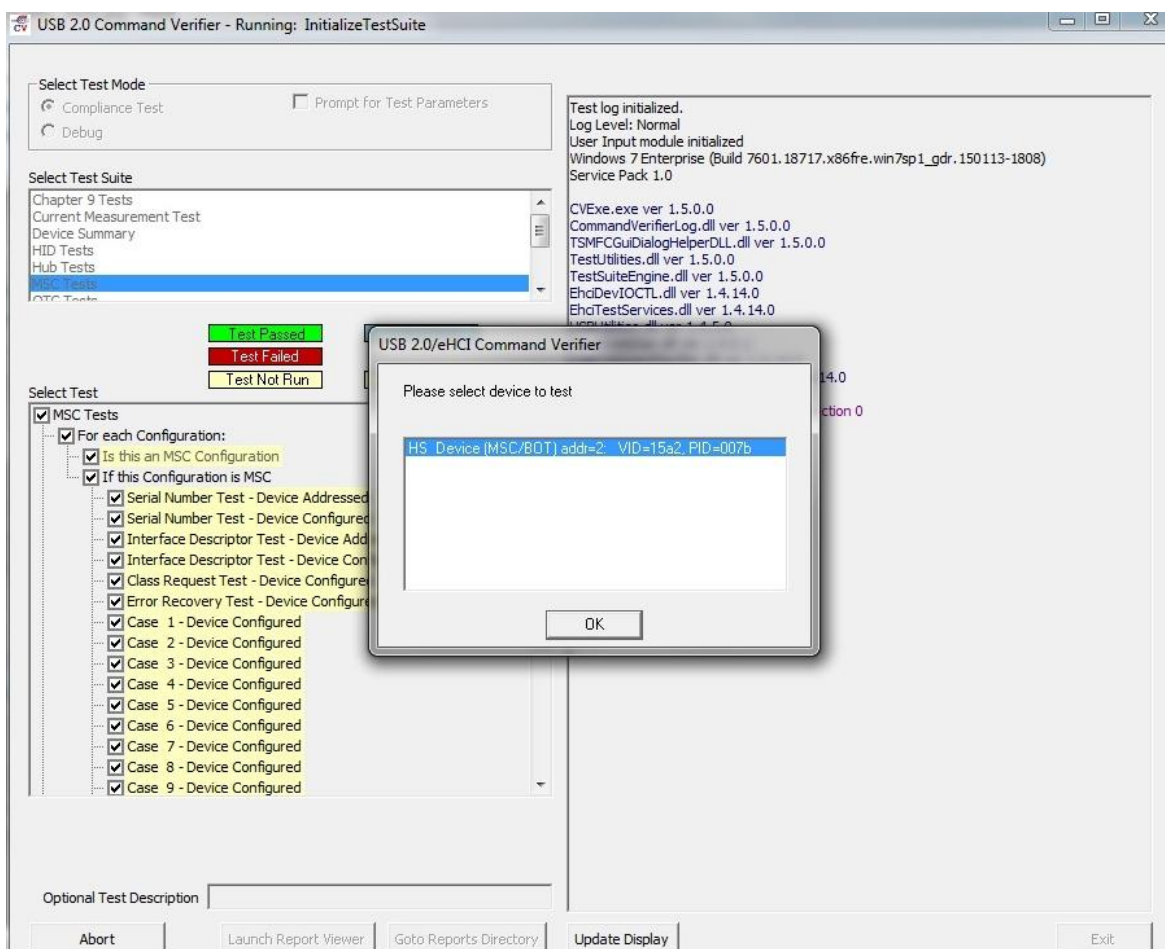

Figure 87. USB20CV MSC Tests
3. Select the DUT device in the list and click on **Ok** as shown in Figure 87.